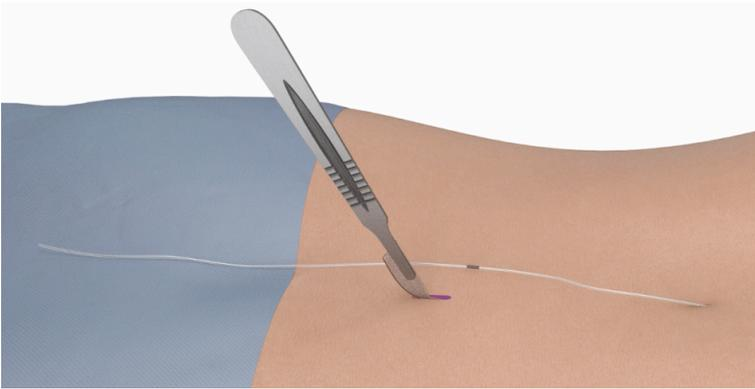

Figure 4
2. After administering local anesthetic, make a 2-inch vertical incision (see Figure 4) for the Receiver subcutaneous pocket.